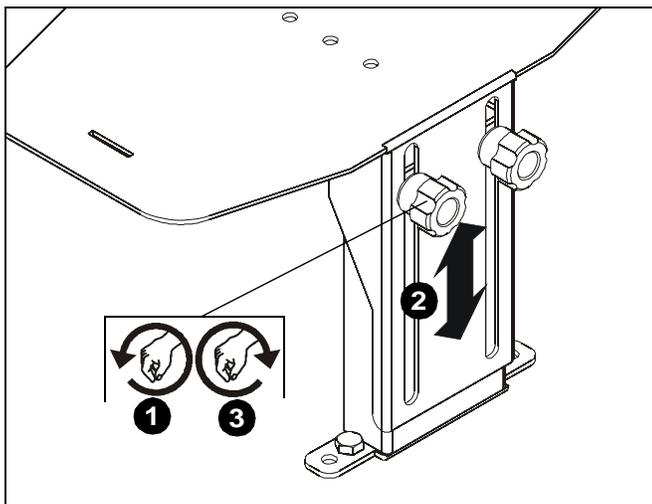

Figure 5
1. Loosen thumb knobs so that height of shelf may be adjusted. (See Figure 5)
2. Adjust shelf to desired height using two thumb knobs (E). (See Figure 5)
3. Tighten thumb knobs to secure shelf at the desired height. (See Figure 5)